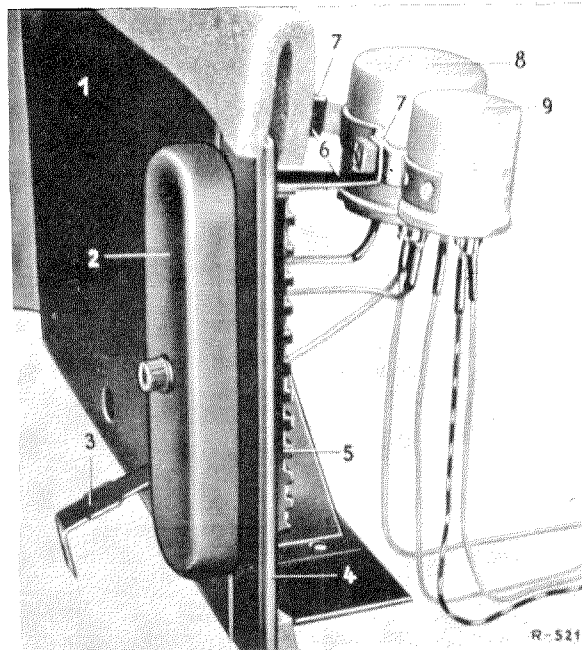

Fig. 54 — 16/1
1. Unscrew the left hexagon screw (7) behind the engine compartment panel (1) at the bracket (6) for the flash signal mechanisms.
2. Disconnect the electric cables and take out the flash signal mechanism (9) (see Fig. 54 — 16/1).
1. Unscrew the two hexagon screws (7) behind the engine compartment panel (1) at the bracket (6) for the flash signal mechanisms (see Fig. 54 — 16/1). Remove the two flash signal mechanisms (8) and (9).
**Note:** The flash signal mechanism (8) for the headlight upper beam flash signal system is connected to the bracket (6) in the same way as the flash signal mechanism (9) for the flash direction signals.
2. Disconnect the electric cables from the upper beam flash signal mechanism (8) and take off the flash signal mechanism.